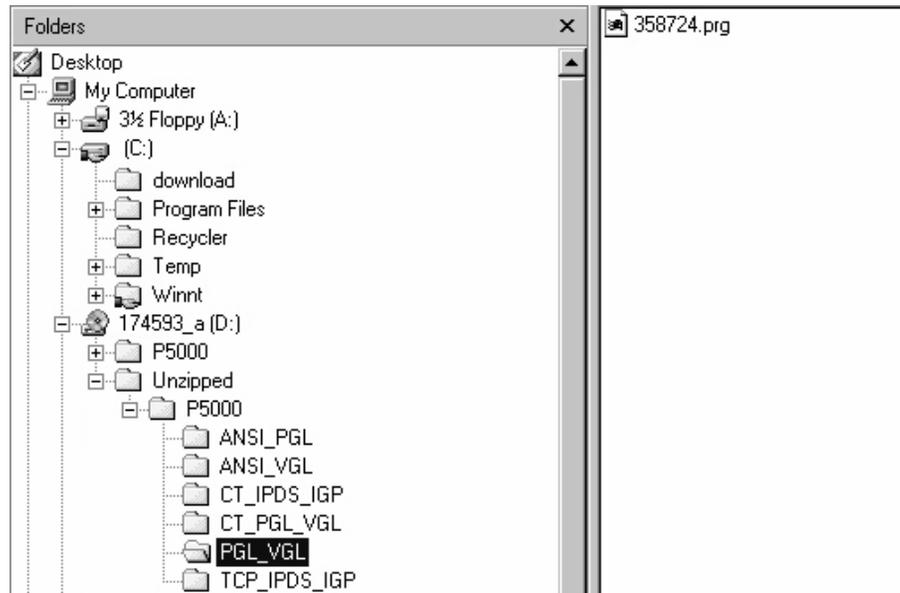

Figure 12. Navigating to the Appropriate Emulation File on the CD-ROM
10. Using Windows Explorer, navigate to the file in the Unzipped directory on the CD-ROM that matches the printer model number and emulation you want. (For example, Unzipped ► P5000 ► PGL_VGL is shown in Figure 12. Your printer and emulation will be different, of course.)
11. Note the filename, which is a six digit number plus **.prg**. (For example, 358724.prg is shown in Figure 12. Your filename may be different, of course.)